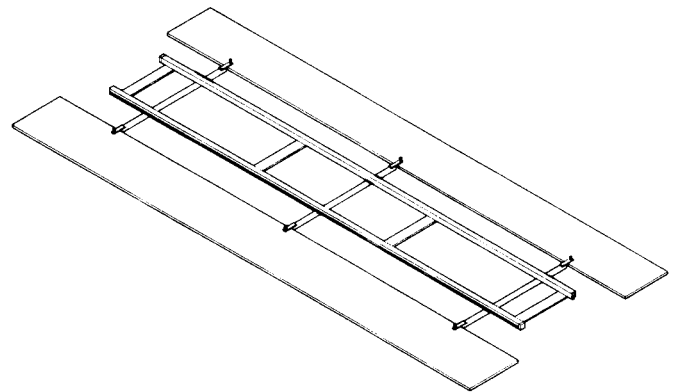

Figure 20
5. Place ladder assembly on ladder support bars. (See Figure 20.)